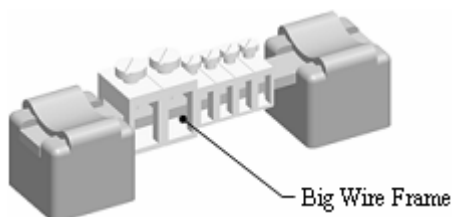

Figure 5-3 Grounding copper bar
4. Fix the grounding wires from the collected grounding plate by the big wire frame of the grounding copper bar, as shown in Figure 5-3.
3. Fix the grounding wires from the collected grounding plate by the bug wire frame of the grounding copper bar, as shown in Figure 5-3.